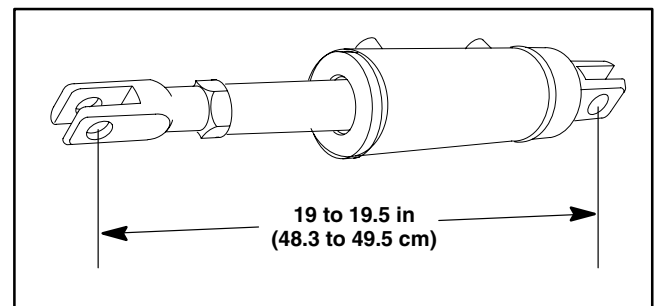

Figure 21
1. Coat new o-rings (items 7, 9, 12 and 13), back-up rings (item 6, 8 and 11) and dust seal (item 4) with clean 10W30 engine oil. Carefully install sealing components to the head and piston.
2. If removed, thread jam nut (item 2) and clevis (item 1) onto rod.
7. Secure head in barrel by installing retaining ring (item 3).
8. Check that length of cylinder when fully extended is from 19 to 19.5 in (48.3 to 49.5 cm) (Fig. 21). If needed, loosen jam nut and adjust clevis position on rod to allow proper cylinder length.